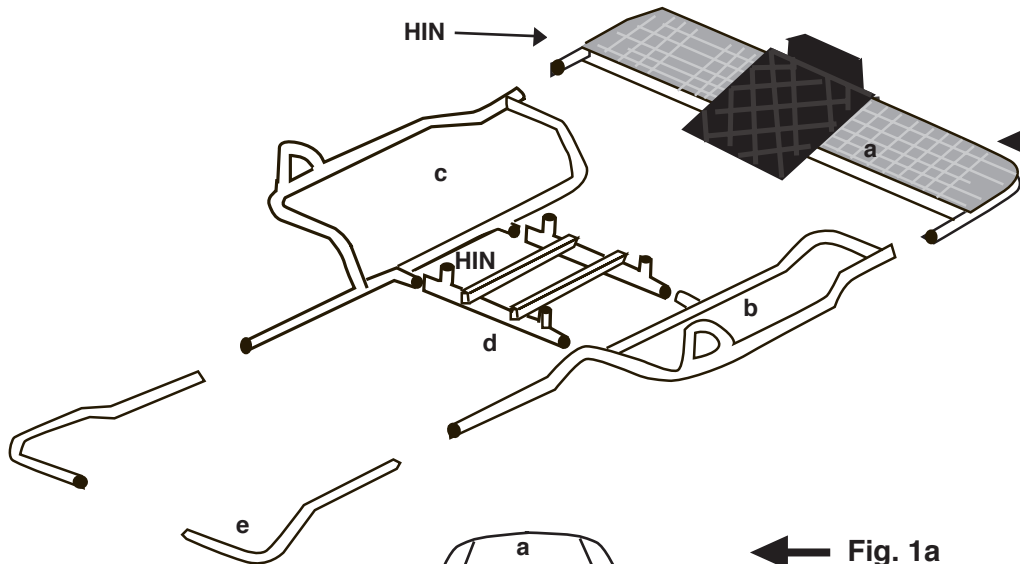

Fig. 1
2. Assemble Seat Support Frame Member to Left and Right Frame Members using (4) of the Snap Pins. (see figure 1)
3. Assemble Cargo Deck to Left and Right Frame Members using (2) Snap Pins (see figure 1).
4. Assemble Foot Bars to Left and Right Frame Members using (2) Snap Pins (see figures 1).
HIN is located on square tubing of seat support frame member and on right main frame member (See Figure 1)